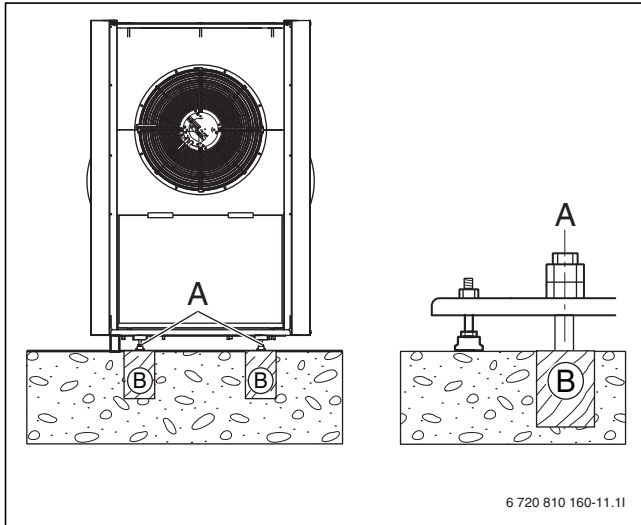

Fig. 9 Dimensions in mm
- The heat pump must be anchored to prevent it from tipping over (→ Fig. 9).